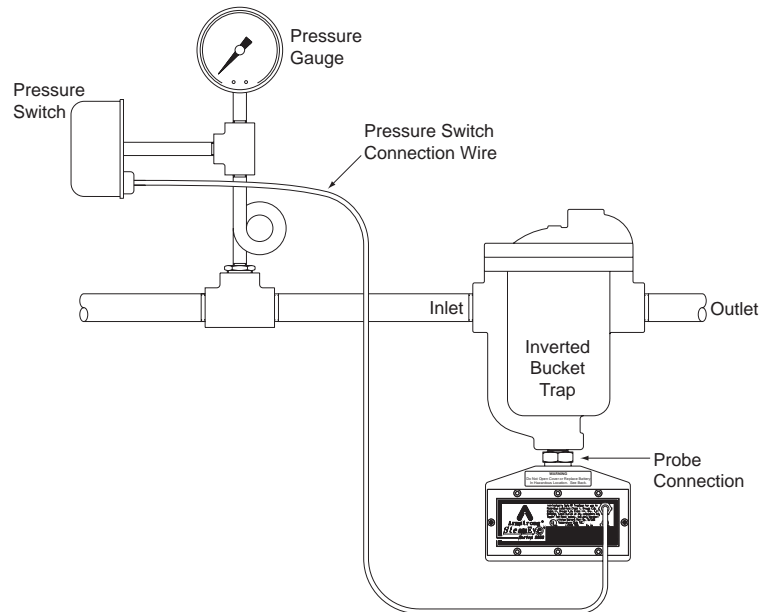

Figure 2. Model RFM 3300 installation with inverted bucket and pressure switch.
- See Figure 2 for proper pressure switch wiring.**CAUTION: Cable cannot rest on steam pipes or hot surfaces.**